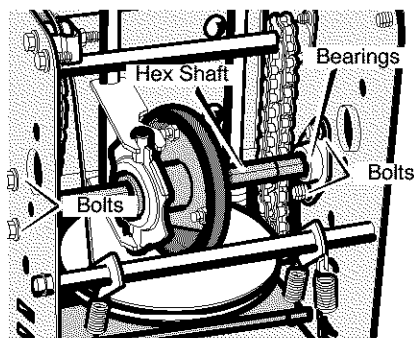

Figure 53
9. Remove the four **bolts** that hold the **bearings** on each side of the **hex shaft** (see Figure 53).